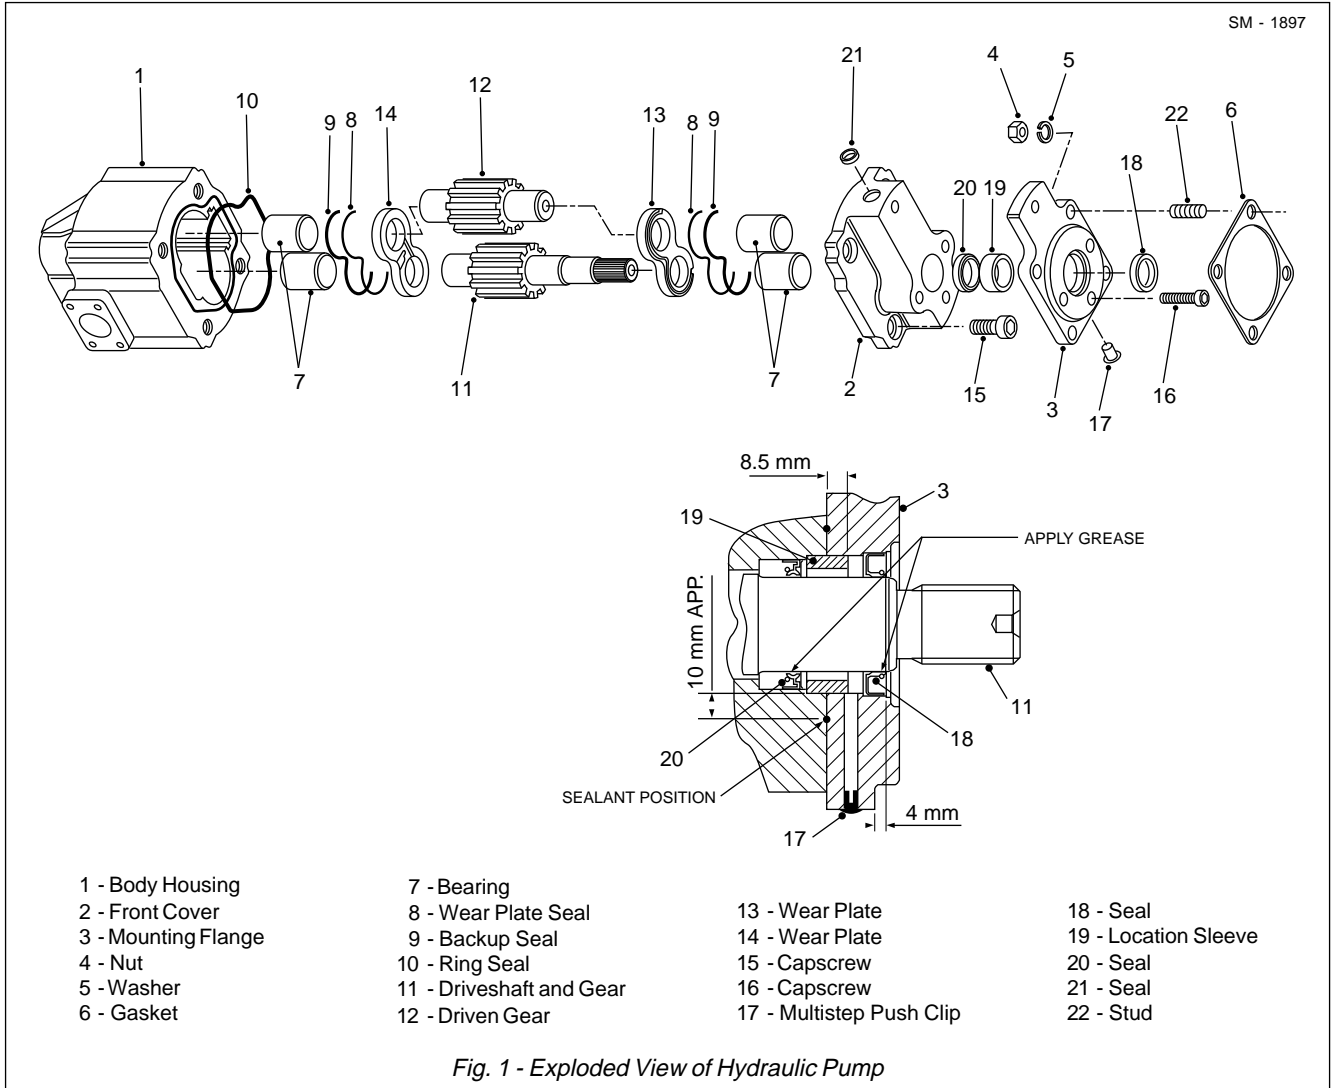
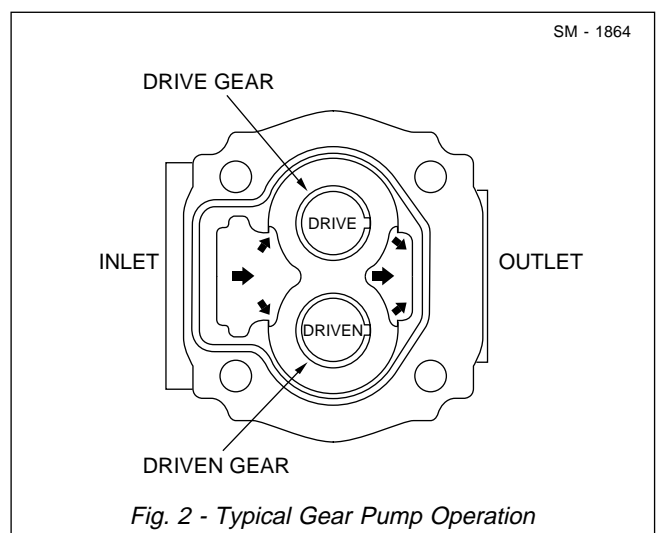

Fig. 1 - Exploded View of Hydraulic Pump
Fig. 2 - Typical Gear Pump Operation
Numbers in parentheses refer to Fig. 1, unless otherwise specified.
Numbers in parentheses refer to Fig. 1.
Numbers in parentheses refer to Fig. 1. Refer to Fig. 2 for typical pump operation.
Numbers in parentheses refer to Figs. 1.
2. Install new lip seals (20) and location sleeve (19) to front cover (2), as shown in Fig. 1.